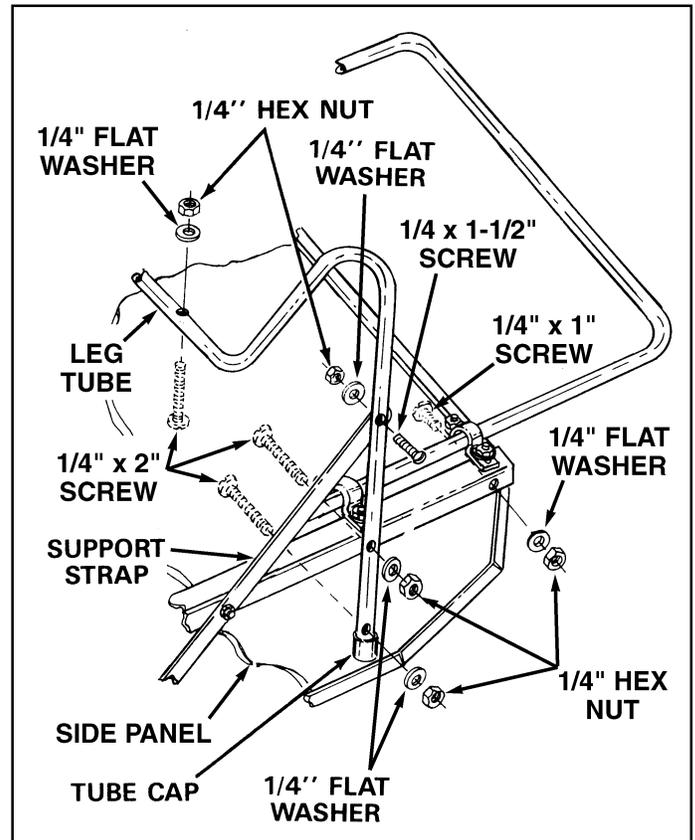

FIGURE 11
17. Insert a 1/4" x 1" screw through the hole at the rear of each side panel and the hole at the rear of each side angle. Secure with 1/4" flat washers and 1/4" hex nuts, **making only finger tight at this time**. See figure 11.
18. Place the tube caps on the ends of the "W" shaped leg tube. See figure 11.
19. With the cart still upside down, assemble the leg tube to the bottom of the cart. Line up the two holes in the center of the leg tube with the holes in the bottom of the cart. Secure the leg tube to the bottom of the cart with two 1/4" x 2" screws, 1/4" flat washers and 1/4" hex nuts. **Make only finger tight at this time**. See figure 11.
20. Attach the leg tube to the side panels with four 1/4" x 2" screws, 1/4" flat washers and 1/4" hex nuts. **Make only finger tight at this time**. See figure 11.
21. Fasten the support straps to the leg tube with two 1/4" x 1-1/2" screws, 1/4" flat washers and 1/4" hex nuts. See figure 11.
22. At this time **tighten securely** all screws and nuts assembled in figure 11.